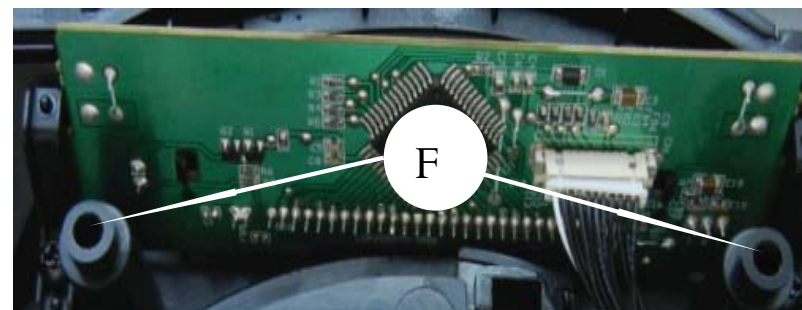

Figure7
- 1) Loosen 2 screws "F" detach KEY Board as shown in figure7